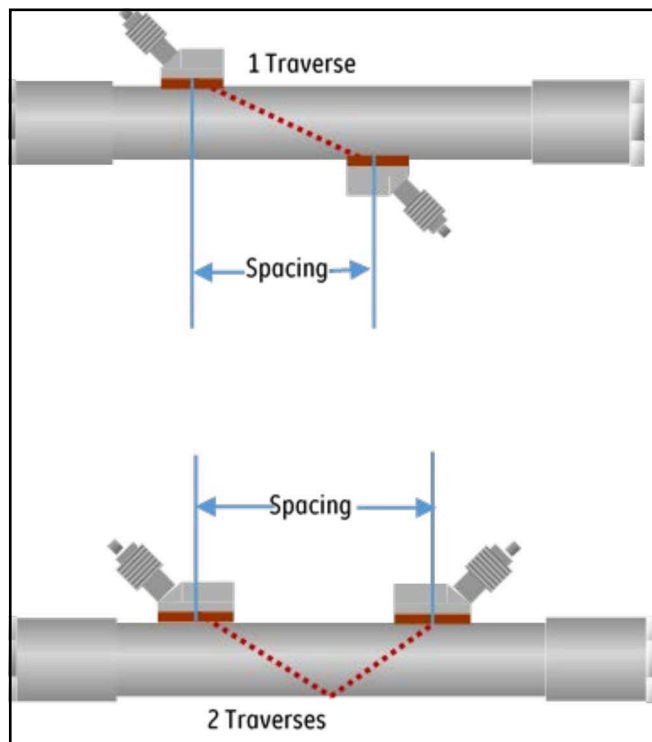

Figure 49: Spacing
3. The **[Spacing]** shows the value calculated by the XMT1000 for the correct distance between the upstream and downstream transducers, based on your programmed transducer, fluid and pipe data. This is the physical spacing value that should be used when installing your transducer clamping fixture on the pipe (see *Figure 49*). When exiting from the **[Channel x]** menu, the meter will display a message indicating that the Physical spacing of the transducers need to be adjusted to the value calculated by the XMT1000.